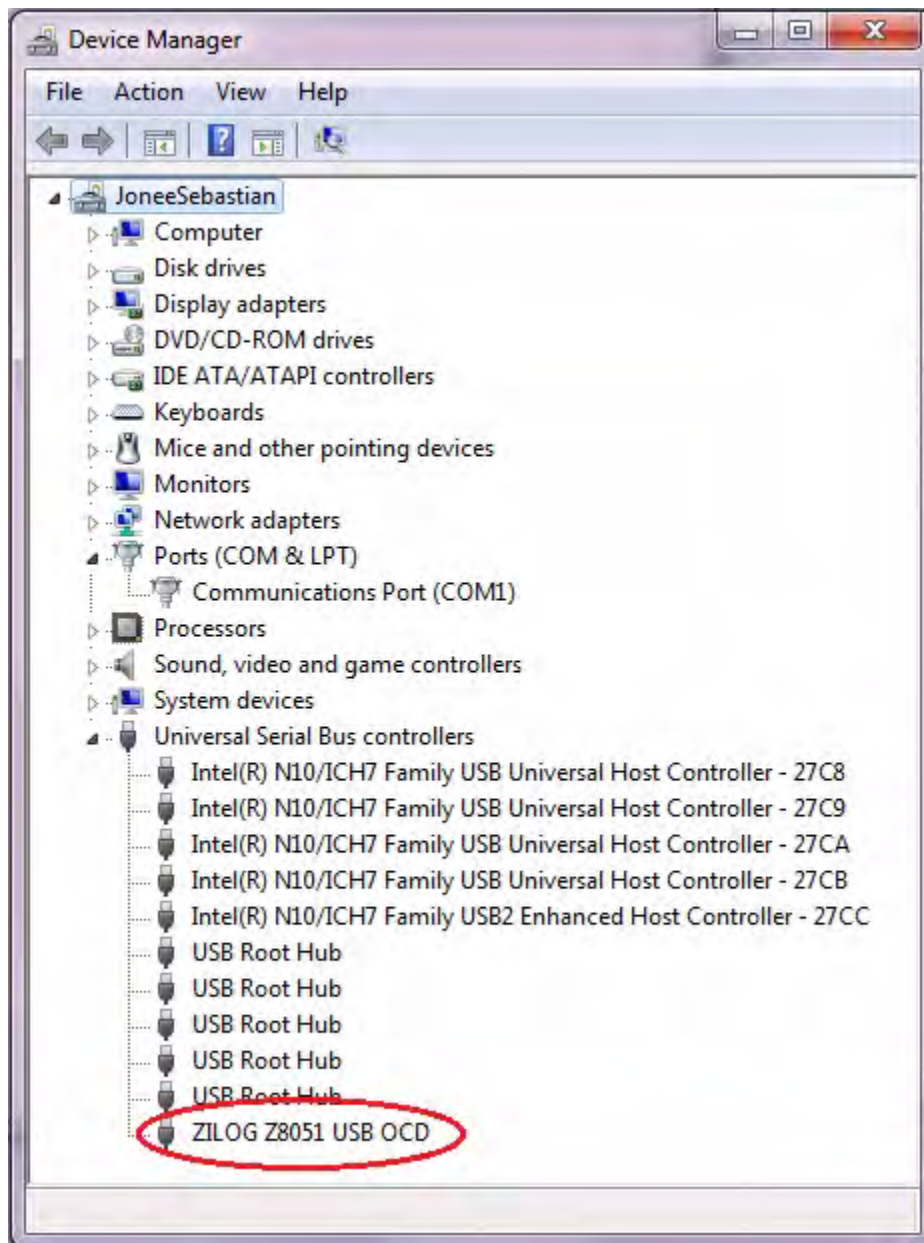

Figure 11. Device Manager Dialog, Windows 7
6. If Zilog Z8051 USB OCD appears in the Device Manager (as highlighted in Figure 11), the OCD driver software has been successfully installed.